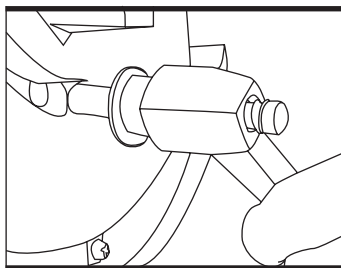
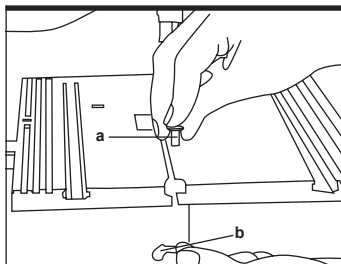

Fig 1
Fig 3
### 1. Fitting the machine table (See Fig1 & Fig3)
4) Unscrew and remove the wing nut (b) and retaining screw (a) (see Fig3).
5) Turn the tightening screw (4) anti-clockwise to remove the tension from the blade (23).
6) Remove the blade (23) from the blade pulleys (8,5) and take out through the slot in the table (19).
7) Fit the new blade (23), aligned centrally on the blade pulleys (8,5).